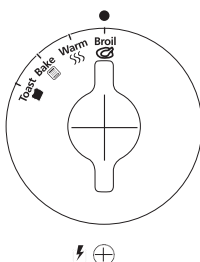

Figure 2
3. **Function Selector Knob** – Select cooking function by turning knob to desired setting. (See Figure 2)